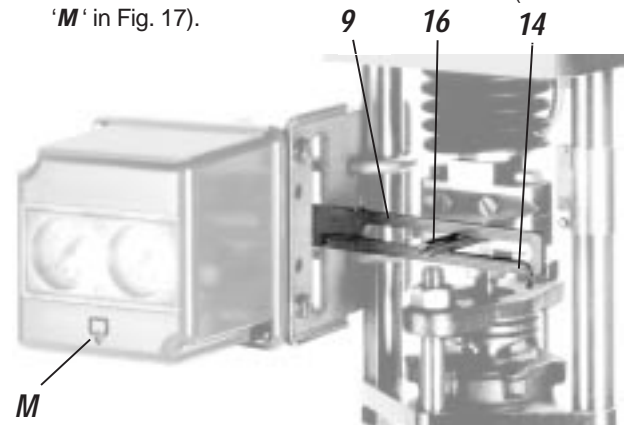

Fig. 17: Pillar yoke, mounting side left
- Attach the feedback lever **9** on the shaft **17** of the positioner and the carrier bolt **16** in such a manner that the compensating spring **14** is above the carrier bolt **16**, when the mounting side is on the right, and below the carrier bolt **16** when the mounting side is on the left (see Fig. 17).
- Screw on the housing cover in such a way that the air vent of the attached device faces downwards (see mark 'M' in Fig. 17).